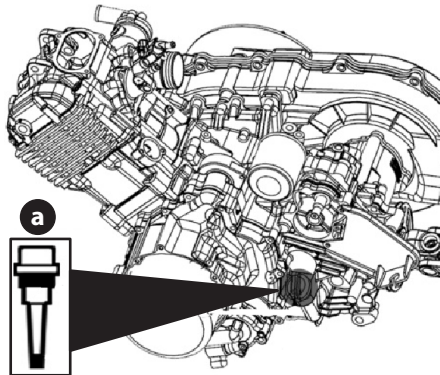

Figure 20
2. To check the oil level, remove the dipstick (a), wipe it clean, replace it without re-threading the dipstick, and pull it out again, check to see if the level is too low and add new oil to the full level on the dipstick (a) (Figure 20). For the location of dipstick.